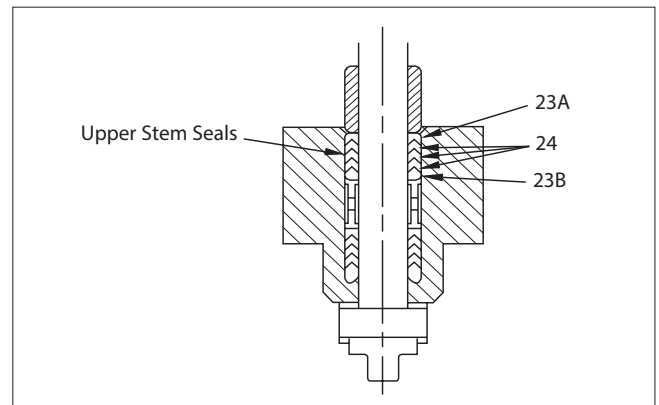

Figure 7.
13. Remove lock nuts (15), flat washers (57), disc springs (35) and disc spring spacers (34).
14. Remove compression plate (10) and compression rings (9).
15. Lightly apply a lubricant compatible with the flow medium to the ID and OD of packing seals. Slide the upper stem seals (23B, 24 & 23A) over stem and pressdown into stem retainer until they are resting on the lantern ring (26). (See **Figure 7** for orientation of upper stem seals.)